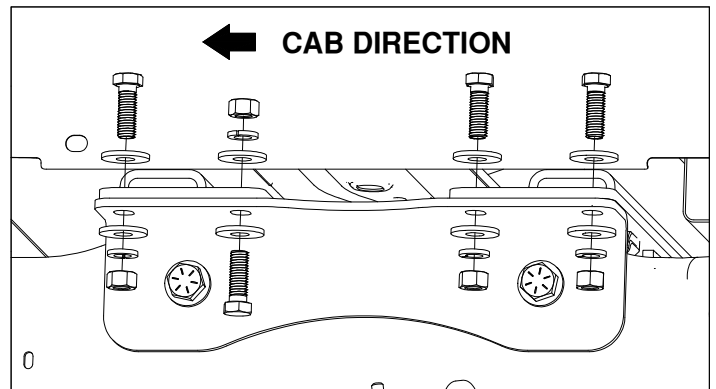

Figure D7: View looking into the driver side wheel well.
7. **Install outside side plate hardware.** Inside each wheel well, place four 1/2" x 1-1/2" cap screws into the four holes that connect the cross members to the outside side plates, as shown in Figure D7. Due to the limited clearance under the bed stiffener, one of the cap screws will need to be installed from the bottom up. Loosely secure the cap screws with two 1/2" flat washers, a lock washer, and a nut. Repeat on the other side of the truck.